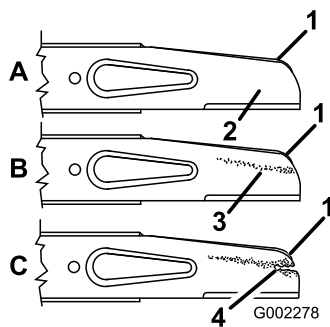

Figure 26
2. Remove the blade nuts, the accelerator, and the blade (Figure 26).